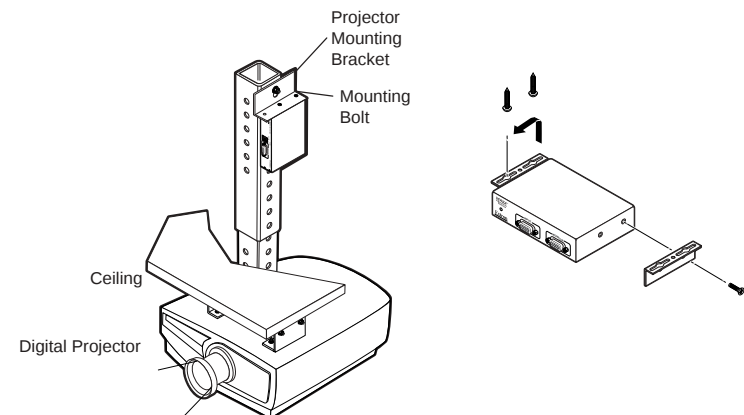

Figure 3 — Desk and projector mounting the P/2 DA2xi or P/2 DA2xi MT
1. Attach the mounting brackets to the P/2 DA2xi or P/2 DA2xi MT with the provided machine screws (figure 3).